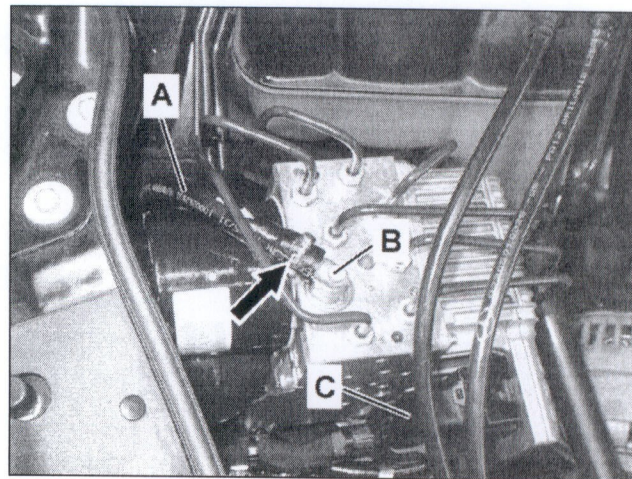

Figure 24
24. Connect SBC suction hose (A, Figure 24) to SBC hydraulic unit fitting (B); refer also to WIS: AR42.46-P-0010R steps 15 - 21.